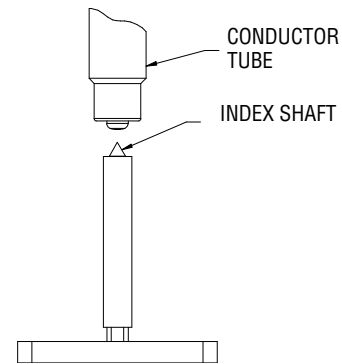

Figure 4: Conductor Tube Positioned Over Index Shaft
6. Position the robot arm with the conductor tube assembly directly above the index shaft. Refer to Figure 4.